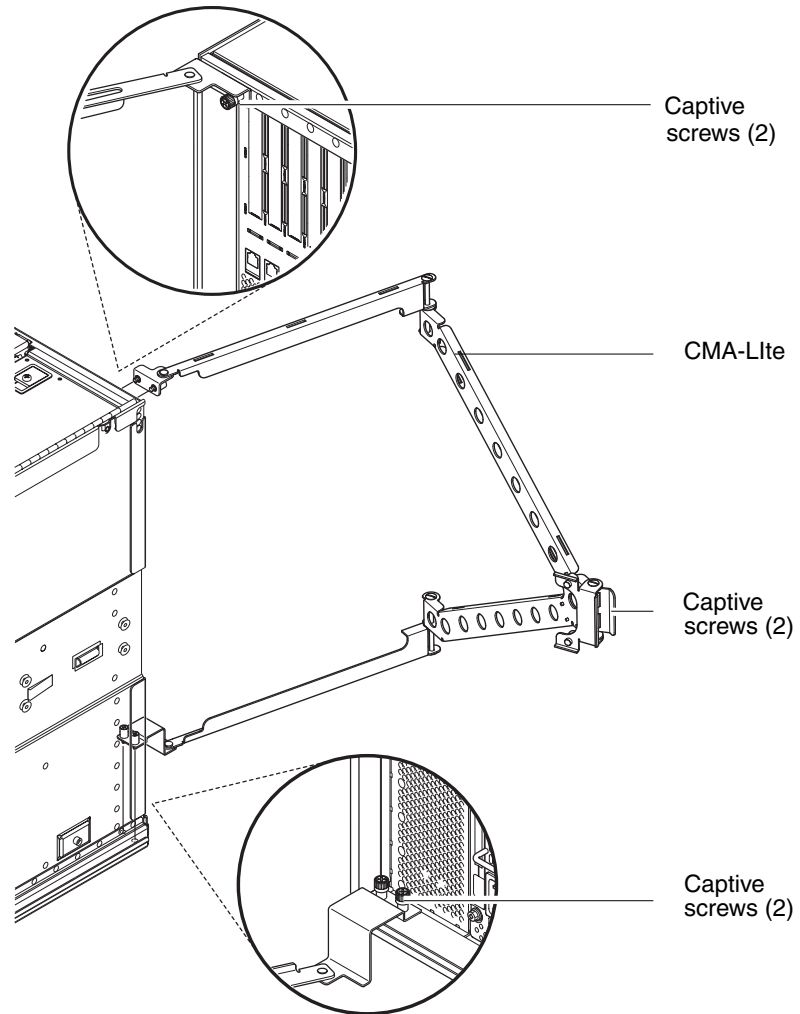

FIGURE 1-14 CMA-Lite Cable Management Arm
1. Secure the pivot at the end of the upper arm to the top rear of the system, using the two captive screws (FIGURE 1-14).